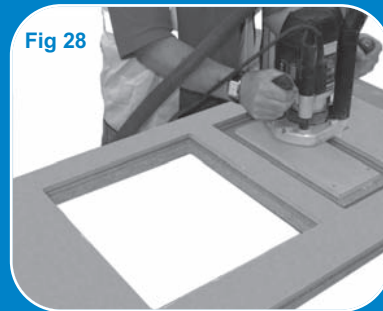

Fig 28
3. Cut into the face of the worktop with a hand router fitted with a 30mm guide collet and standard 1/2 inch router cutter, cutting round in 3 stages of 12mm depth increments (fig 28).